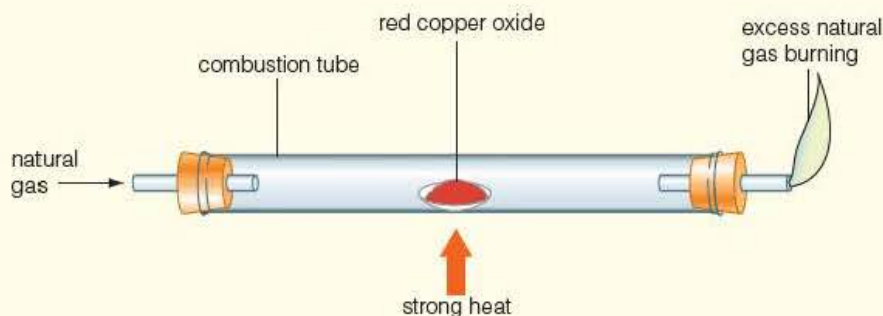

Figure 1.22 ▲
A student investigated the formula of red copper oxide by reducing it to copper using natural gas as shown in Figure 1.22.
- 1 Look at Figure 1.22. What safety precautions should the student take during the experiments?